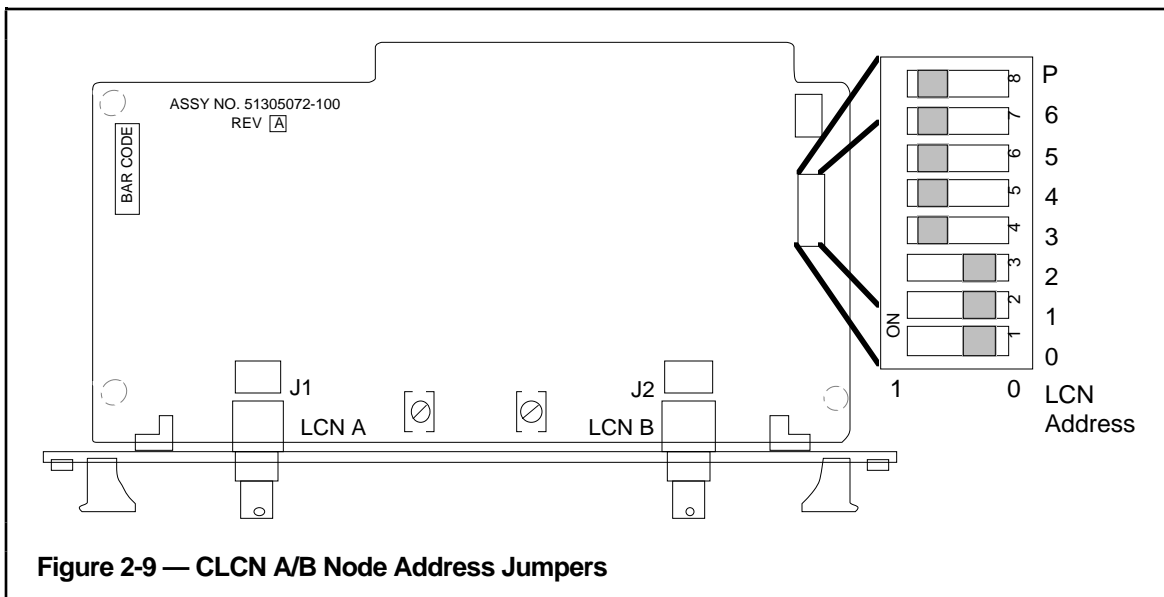

Figure 2-9 — CLCN A/B Node Address Jumpers
If the CLCN A/B or K2LCN board is replaced on site, or if an additional module is added, the new board or module (including the Universal Work Station) must be set up for the node it will occupy; for example, Figures 2-9 and 2-10 show the location of the address pack on the CLCN A/B board and the K2LCN board, jumpered for an address of three (3).